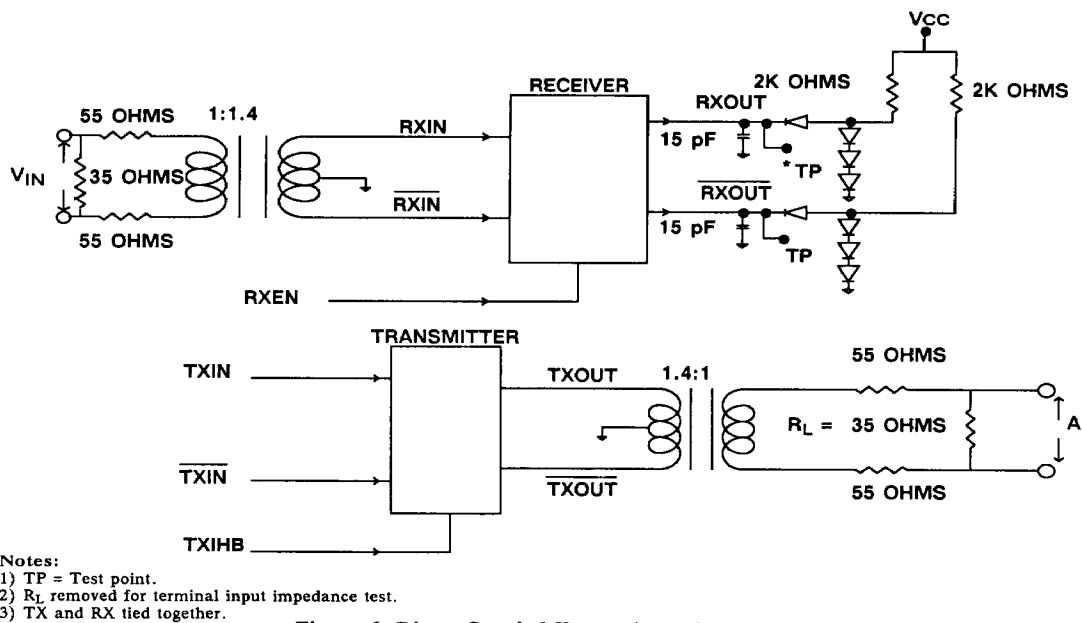

Figure 6. Direct-Coupled Transceiver with Load
Terminal is defined as transceiver plus isolation transformer and fault resistors. Point A defined in figure 6.
1. All tests guaranteed per test figure 6.